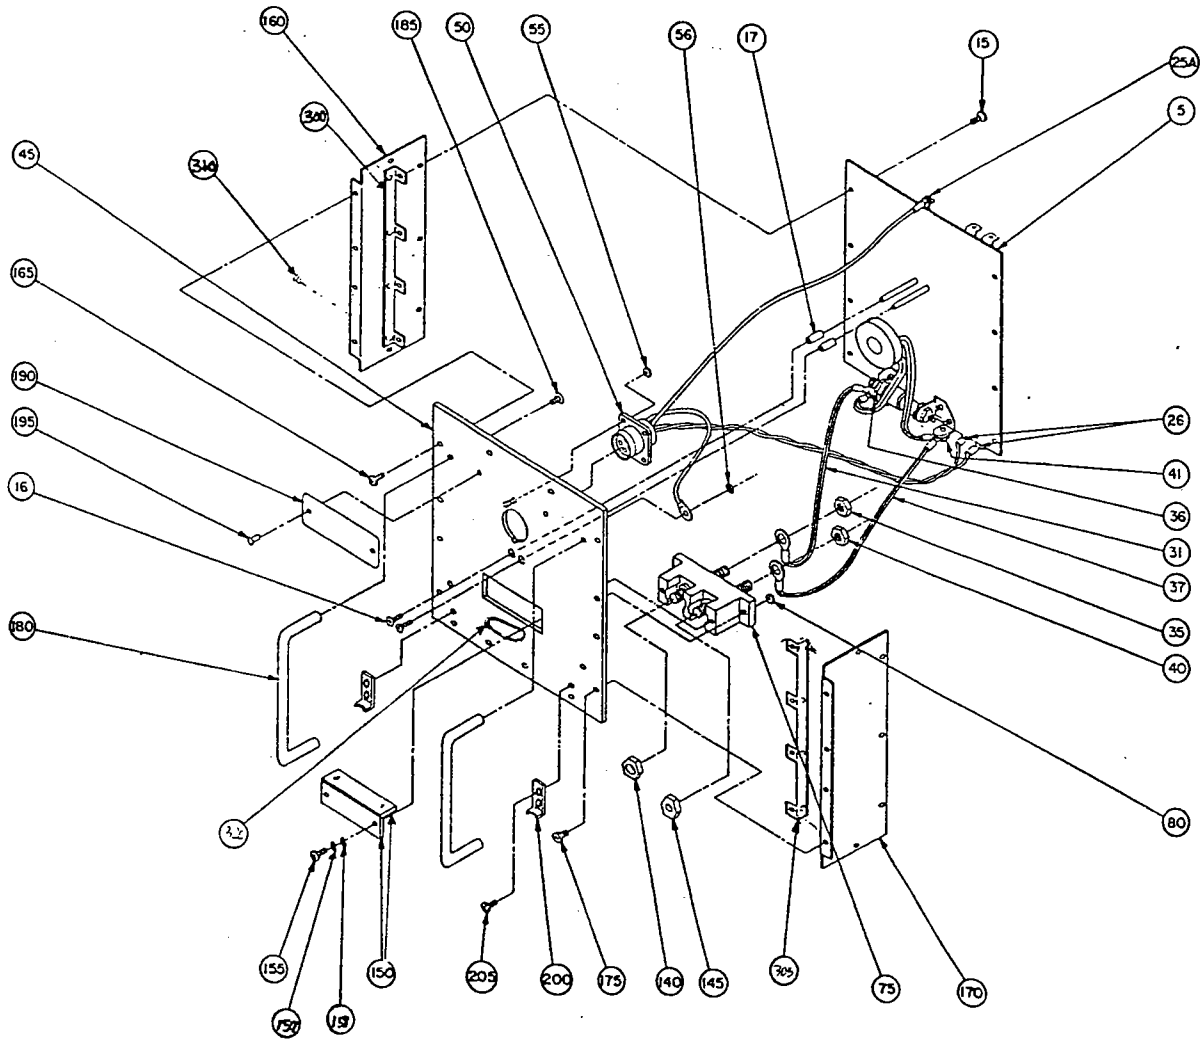

FIGURE 2
2. - Remove one (1) 4-40 screw item (25A) of figure 2 and disconnect on/off lead.
8. - Remove two (2) 4-40 screws, item (26) of figure 2 and disconnect ac filter leads.
7. Remove one (1) 6-32 screw, item (41) of figure 2 and disconnect input power cable.
8. Remove one (1) 6-32 screw, item (36) of figure 2 and disconnect other input power cable.
9. Remove two (2) 4-40 screws, item (16) of figure 2.
10. Lay front Panel/EMI Assembly, front side down and carefully remove eight (8) 4-40 screws, item (15) of figure 2.